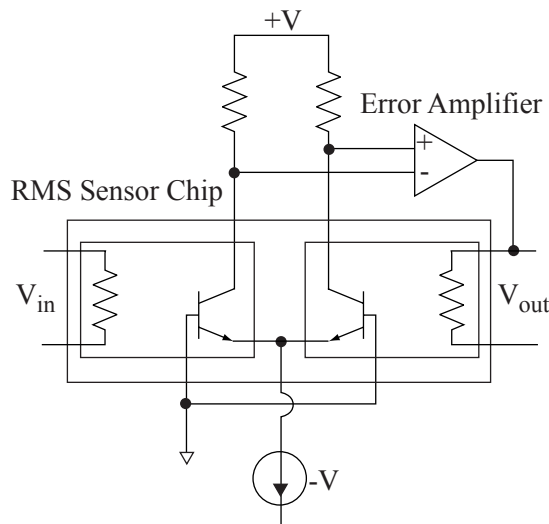

Figure 5-23: Simplified RMS circuit
Figure 5-23 shows an IC that converts an input signal to an equivalent DC voltage.
- The following information refers to the fluke 792A RMS circuit in Figure 5-23: fast settling time, 30 to 60 sec., large output voltage 2 Vdc compared to thermocouples mv's, temperature stability 11 to 35 degrees C, input voltages from 2 mv to 1000 Vac, frequency response 10 Hz to 1 MHz, Hi accuracy 10 PPM to 5000 PPM depending on voltage range and frequency selected
**Explain below how Figure 5-23 operates.**